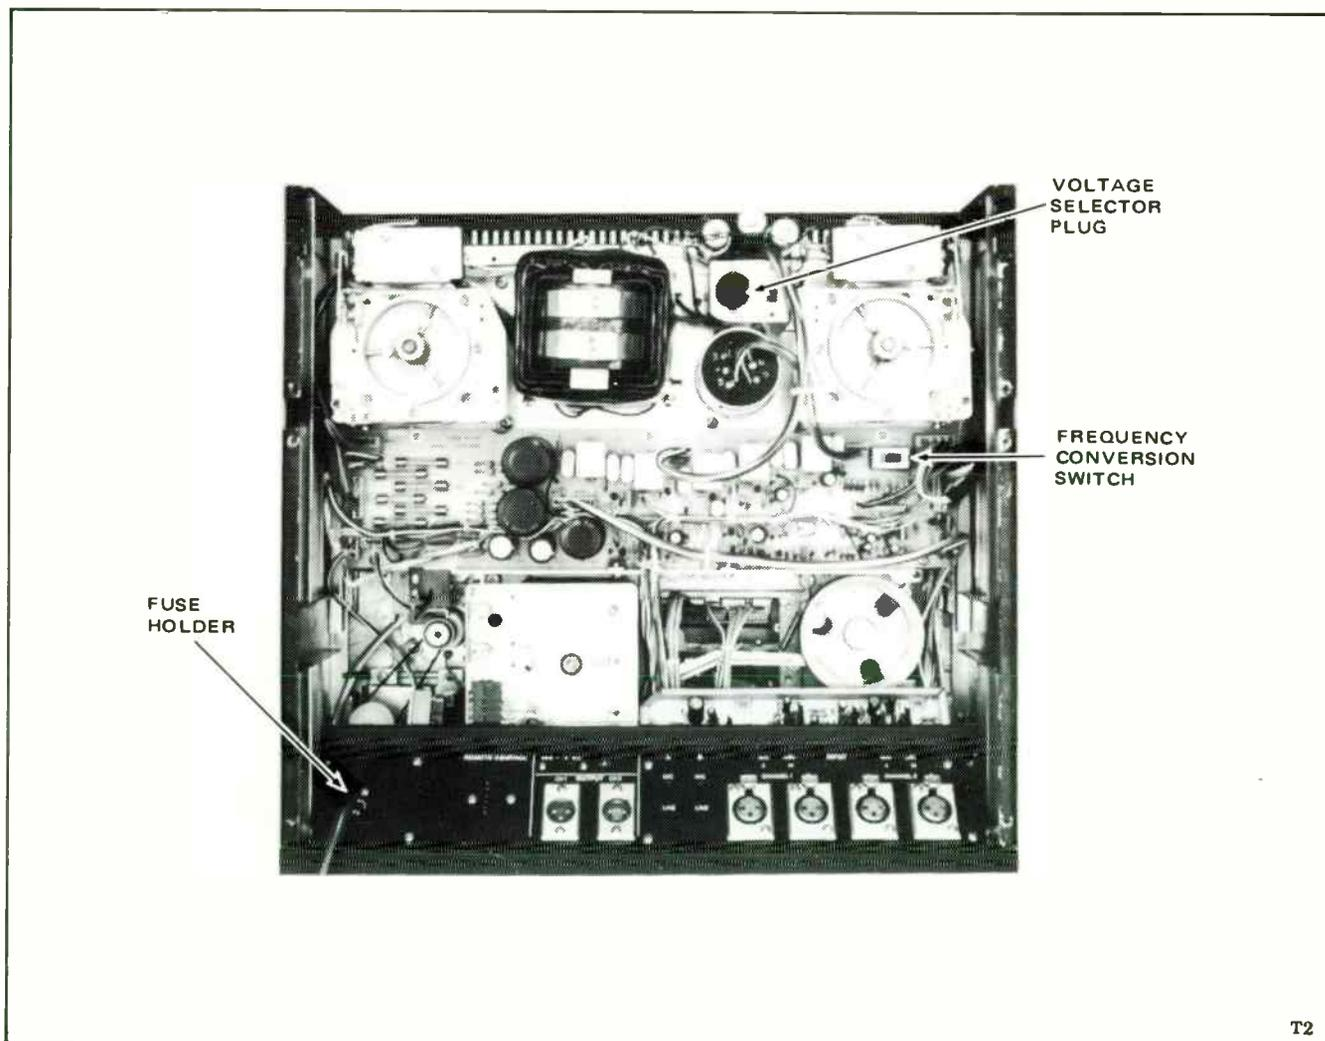
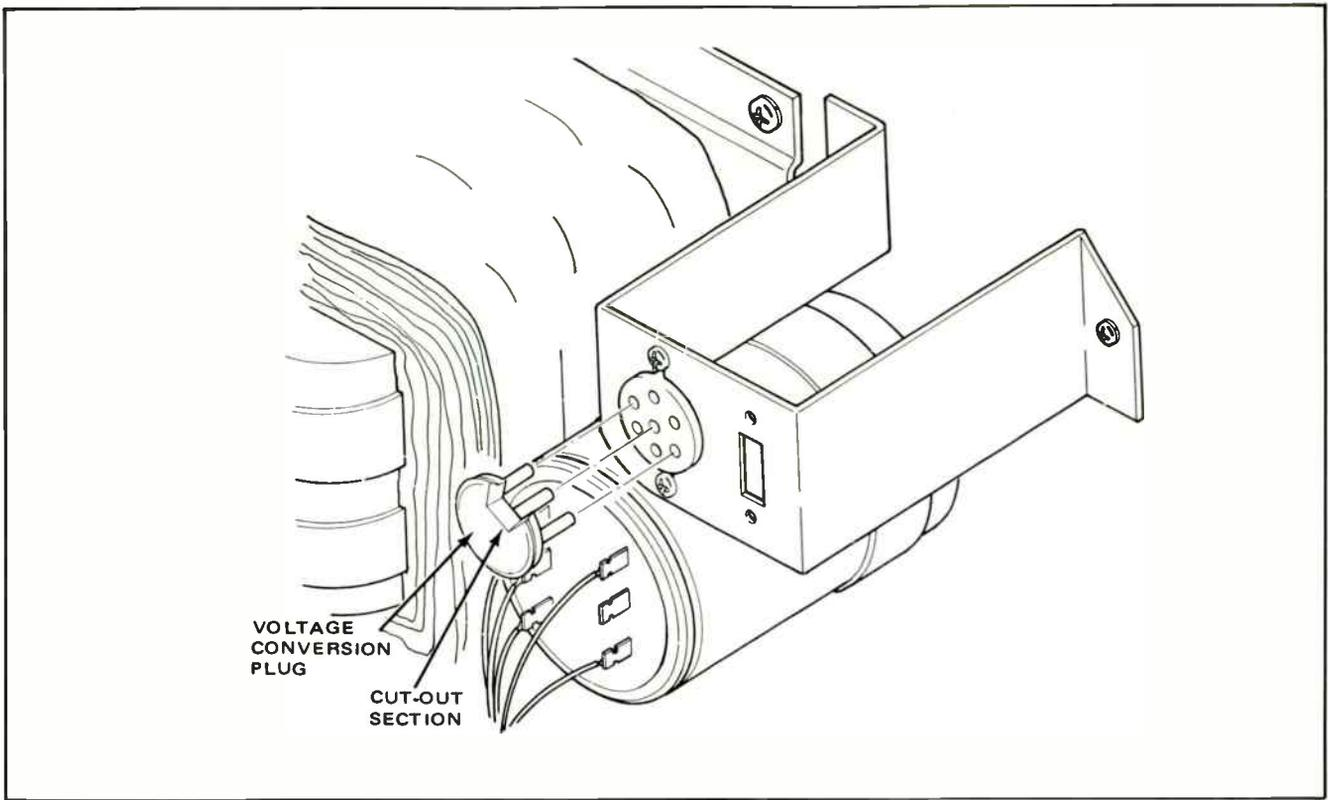

Figure 2-5. Voltage and Frequency Conversion
Figure 2-6. Voltage Conversion Plug
4. Locate the voltage selector plug just to the left of the supply reel motor as viewed from the rear of the deck (see Figure 2-5). Pull out to remove plug, and reinsert it so that the required voltage is indicated in the cut-out section of the plug (see Figure 2-6).
WHEN VOLTAGE SETTING IS CHANGED, BE SURE TO INSTALL A NEW FUSE OF MATCHING VOLTAGE AND CURRENT IN FUSE HOLDER SHOWN IN FIGURE 2-5.
5. Locate the frequency conversion switch just below the supply reel motor (Figure 2-5) and check that the selected frequency (50 or 60 Hz) matches the frequency of the power line at the installation site. If not, change the switch setting (shown in Figure 2-7) to correspond to the input line frequency.